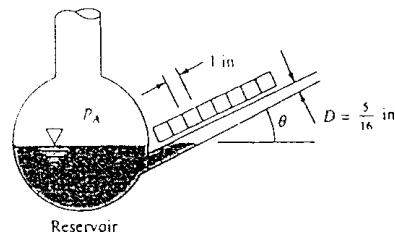

Fig. P2.37
**2.37** The inclined manometer in Fig. P2.37 contains Meriam red oil,  $SG = 0.827$ . Assume the reservoir is very large. If the inclined arm has graduations 1 inch apart, what should  $\theta$  be if each graduation represents 1 psf of the pressure  $p_A$ ?
- 2.49** An inclined manometer, similar in concept to Fig. P2.37, has a vertical cylinder reservoir whose cross-sectional area is 35 times that of the tube. The fluid is ethylene glycol at 20°C. If  $\theta = 20^\circ$  and the fluid rises 25 cm above its zero-difference level, measured along the slanted tube, what is the actual pressure difference being measured?